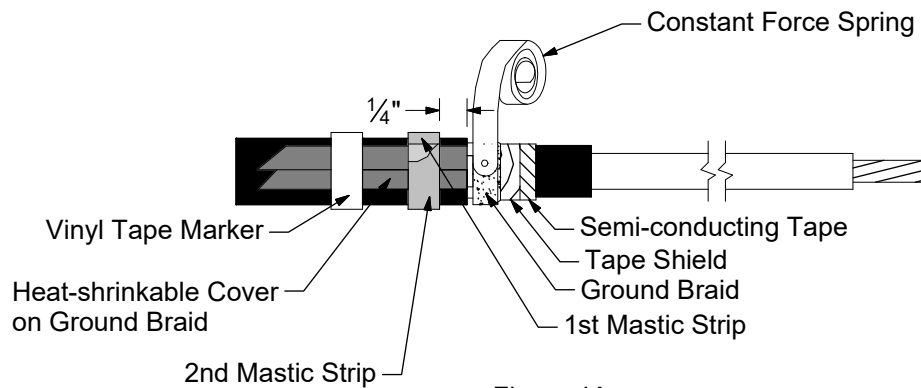

Figure 4A
4. Wrap the ground braid around the metallic shield and secure in place with the constant force spring. Tighten the spring after wrapping the final turn. Position the ground braid tails over the cable jacket. The tails of the ground braid do not have to be on top of each other. See Figure 4A.
5. Select the second mastic strip from the kit and remove the white release liners. Apply a single wrap of the second mastic strip over the previously applied mastic. If ground braids overlap on cable jacket be sure to apply mastic between the braids. Secure ground braids to cable jacket 4-1/2" from cable semi-con edge using vinyl tape. Apply tape directly over previously applied marker tape. See Figure 4A.